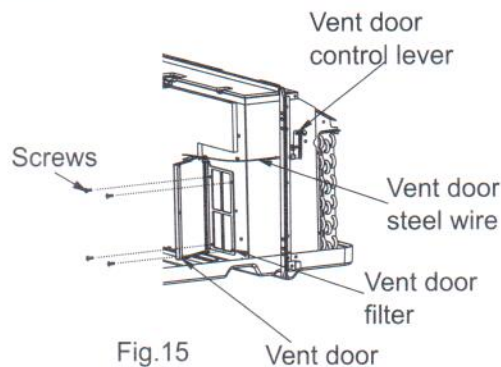

Fig.15
- Rotate the vent control lever to open the vent door. (See Fig.15)
- Remove four screws from the vent door filter. (See Fig.15)
- First pull out the vent door steel wire from the hole of the vent door, then take off the vent door and filter. (See Fig.15)